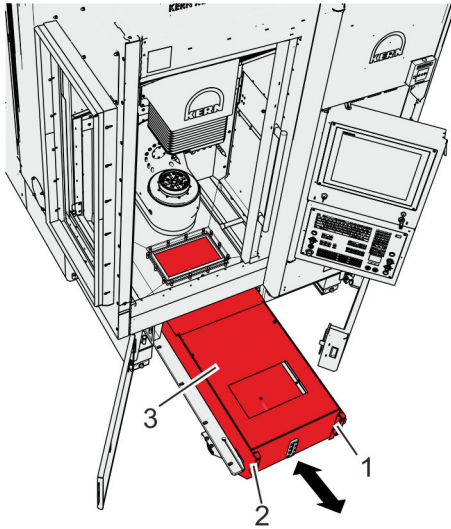

Fig. 87: Cooling lubricant tank
**14.** Place the cover (Fig. 87/3) back on the cooling lubricant tank.
Slowly push in the entire cooling lubricant tank as far as it will go by the handles (Fig. 87/1, 2).